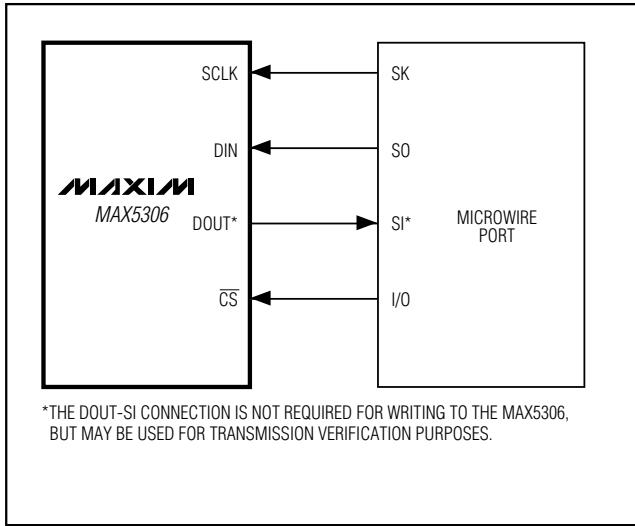
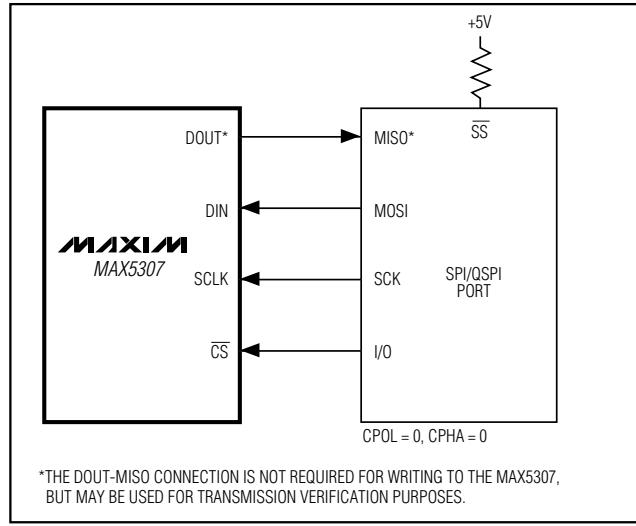

Figure 2. Connections for MICROWIRE
Figure 3. Connections for SPI/QSPI
The MAX5306/MAX5307 3-wire serial interface are compatible with MICROWIRE, SPI, QSPI, and DSPs (Figure 2 and Figure 3). The chip-select input (CS) frames the serial data loading at DIN. Following CS's high-to-low transition, the data is shifted synchronously and latched into the input register on each falling edge of the serial clock input (SCLK). Each serial word is 16 bits, the first four bits are the control word followed by 12 data bits (MSB first) as shown in Table 1. The 12-bit DAC code is unipolar binary with 1LSB = V_{REF}/4096.